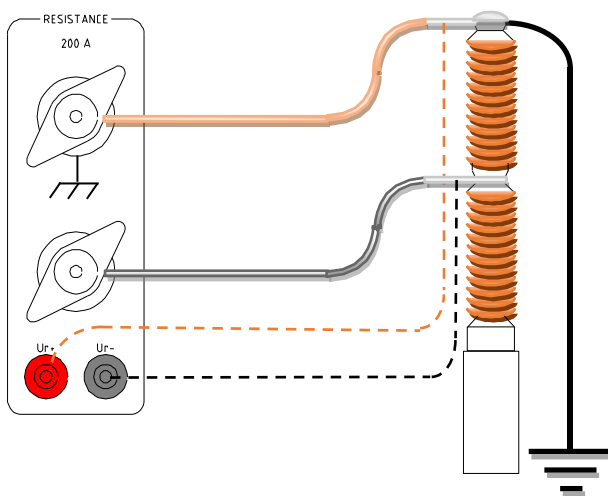

Figure. 2.4 Connections for a resistance measurement of a breaking unit
- 200A Red Pole of SA10A is connected to chassis ground, and must be connected to the grounded side of the breaking unit. See figure 2.4 below
**200A Red Pole** of **SA10A** is connected to chassis ground, and must be connected to the grounded side of the breaking unit. See figure 2.4